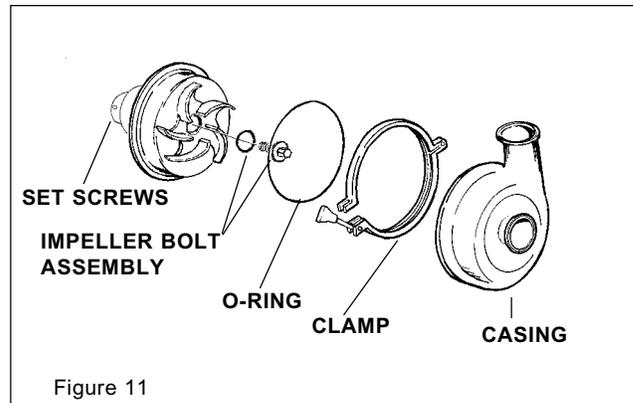

Figure 11
1. Remove all flush connections and fittings. Remove the casing clamp, casing and O-ring from the housing flange. (Figure 11)